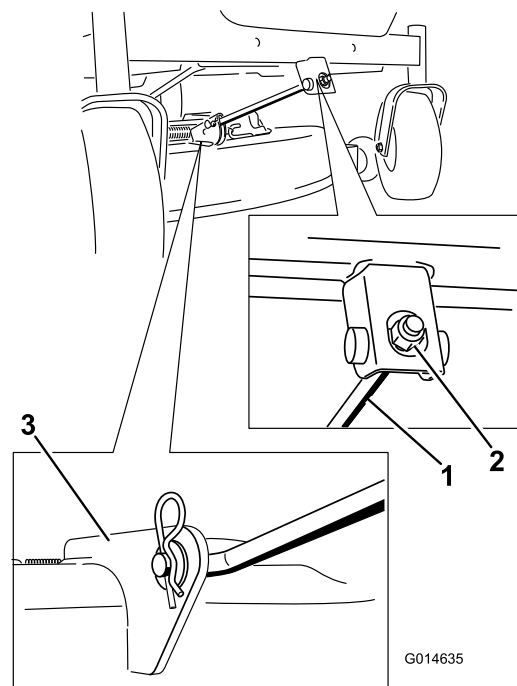

Figure 67
4. Remove the hairpin cotter from the front support rod and remove the rod from the deck bracket (Figure 67). Carefully lower the front of the mower deck to the ground.
- Attach the front support rod to the mower deck with the clevis pin and hairpin cotter (Figure 67).